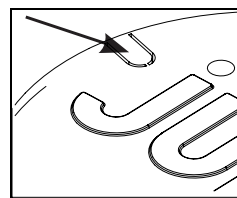

Figure 7
Step 6. (MVOLT ONLY) For 0-10V dimming leads, remove knockout in cover (Fig 7) over two position connector.